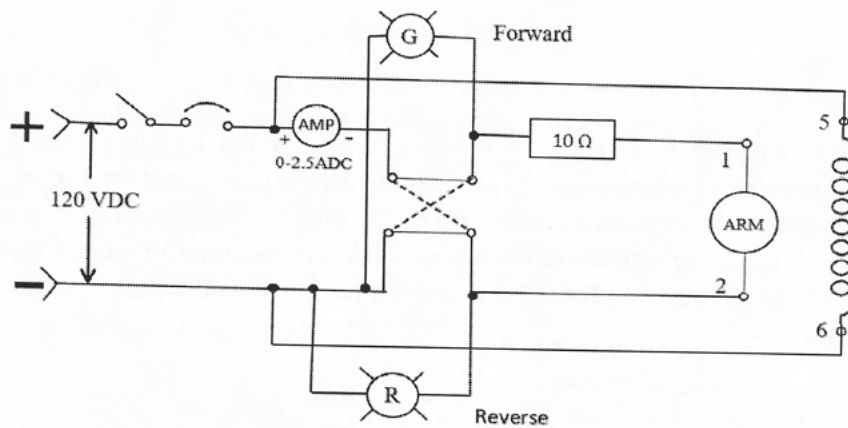

Figure 4
2. a. Examine the circuit shown in (figure 4)
- c. Connect the circuit as shown in (figure 4).
- a. The speed of a D.C. shunt motor can be increased by inserting resistance in series with its field winding. In fact, the motor speed will increase very rapidly if the field is completely disconnected from the power source. You will now add resistance into the shunt field of the motor circuit of (figure 4).